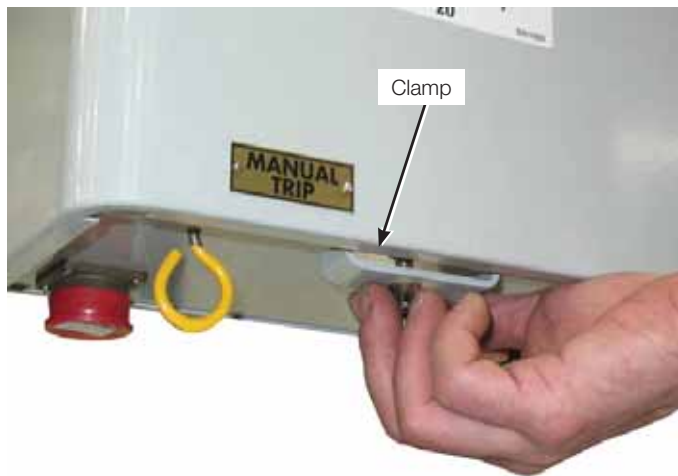

Figure 5.
- a. Hold the operating mechanism cover in place to prevent it from falling. Loosen the wing nut securing the cover and move the clamp aside. Refer to Figure 5.
- 9. Reinstall mechanism cover. Secure by tightening clamp and wing nut. Refer to Figure 5.